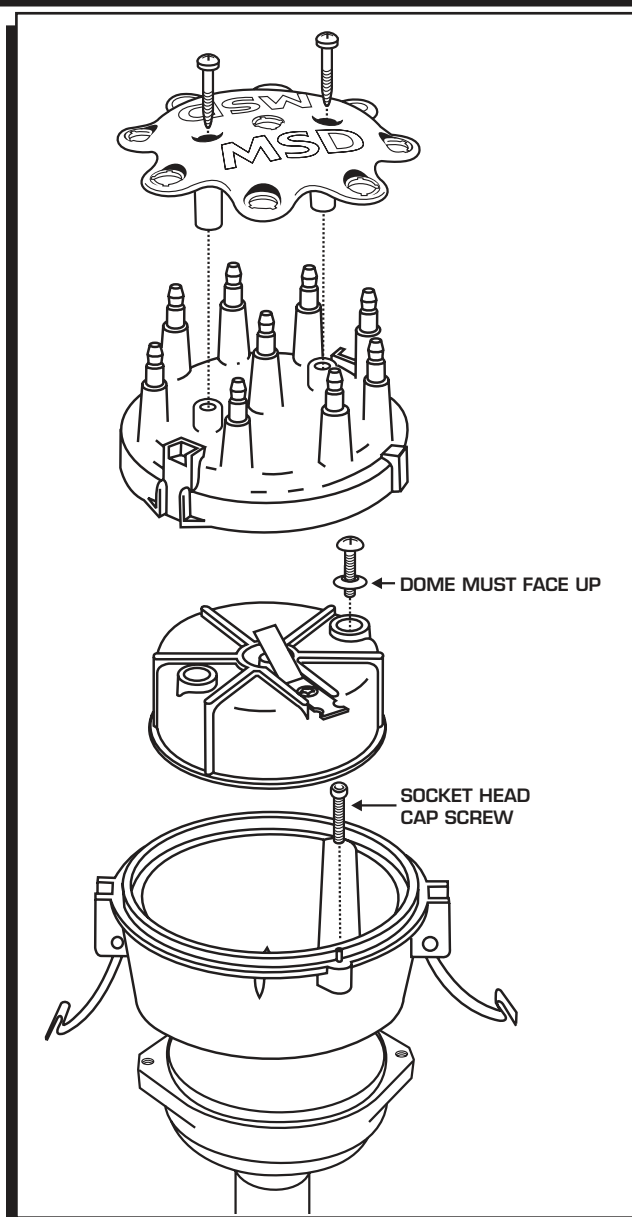

Figure 1 Installing the Cap-A-Dapt.
2. Fit the Adapter to the distributor base (Figure 1). Use the supplied Socket Head Cap screws to hold the retainer.